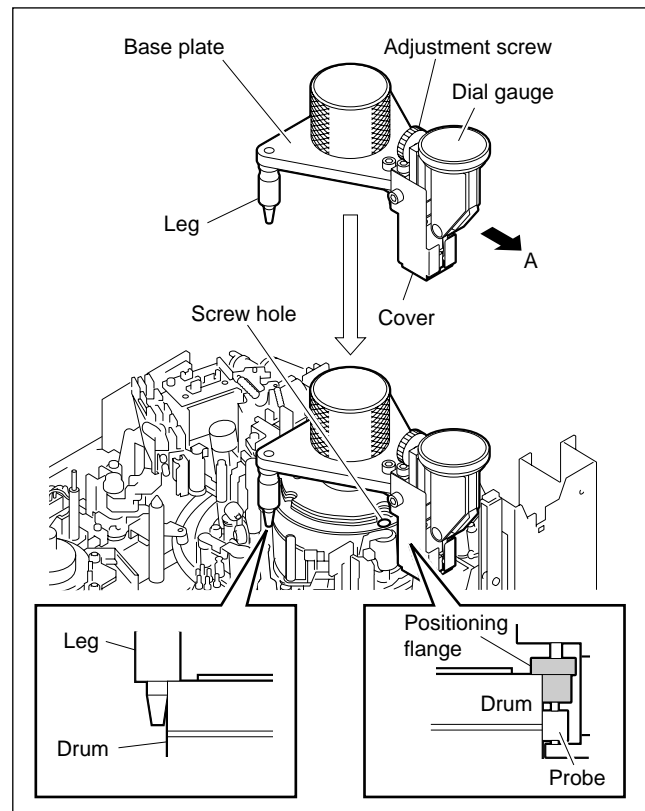

Figure 3. Setting of Head Tip Protrusion Measurement Gauge
2. Clean the probe, positioning flange, and portion touching the drum of two legs. (Refer to Figure 3.)
5. Lower the measurement gauge slowly until the ridges of the two legs and positioning flange touch the upper drum while pushing two legs against the outer circumference of the drum's upper surface (applying force slightly to the measurement gauge in the direction indicated by the arrow). (Refer to Figure 3.)
- Lift up the positioning flange from the outer circumference of the drum's upper surface to a few millimeters, and then lift the measurement gauge slowly and remove it while pushing two legs against the outer circumference of the drum's upper surface (applying force slightly to the measurement gauge in the direction indicated by arrow A). (Refer to Figure 3.)